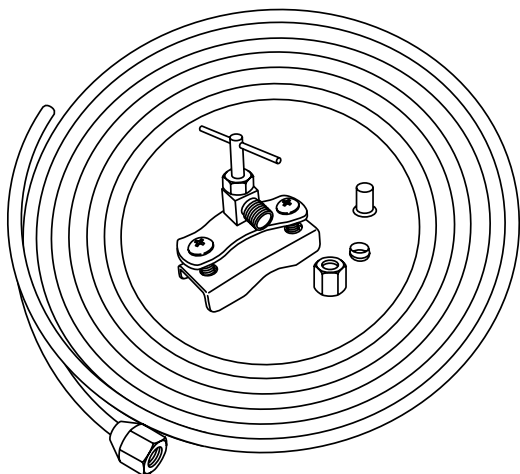

Figure 13
- Use a 1/4" OD copper line to connect the water supply to the solenoid valve. ***This is not supplied with the refrigerator (Figure 13).***